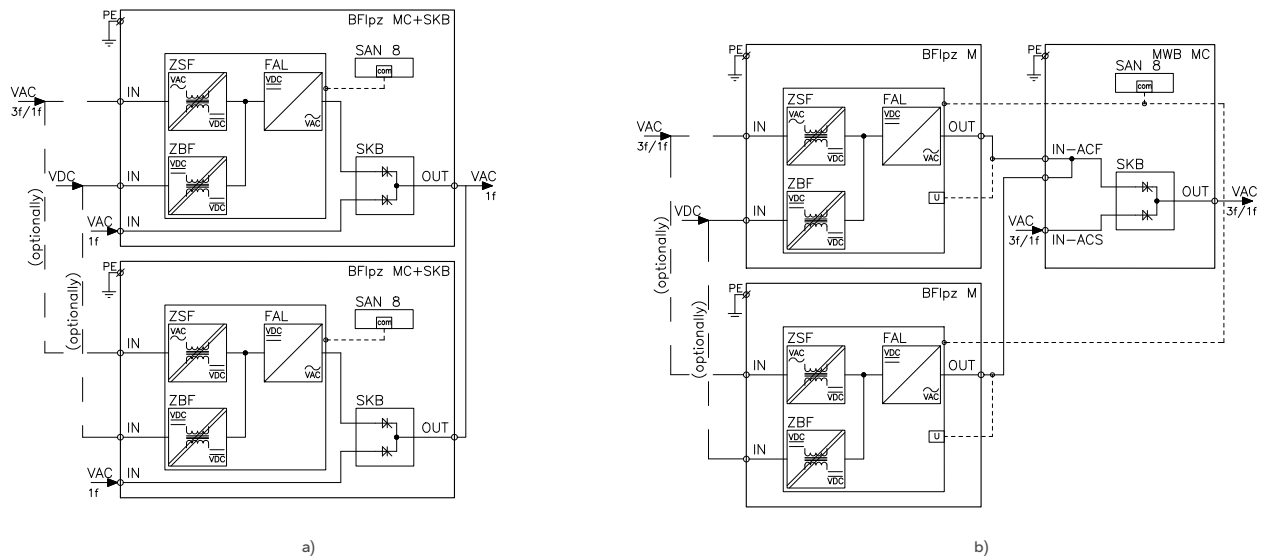
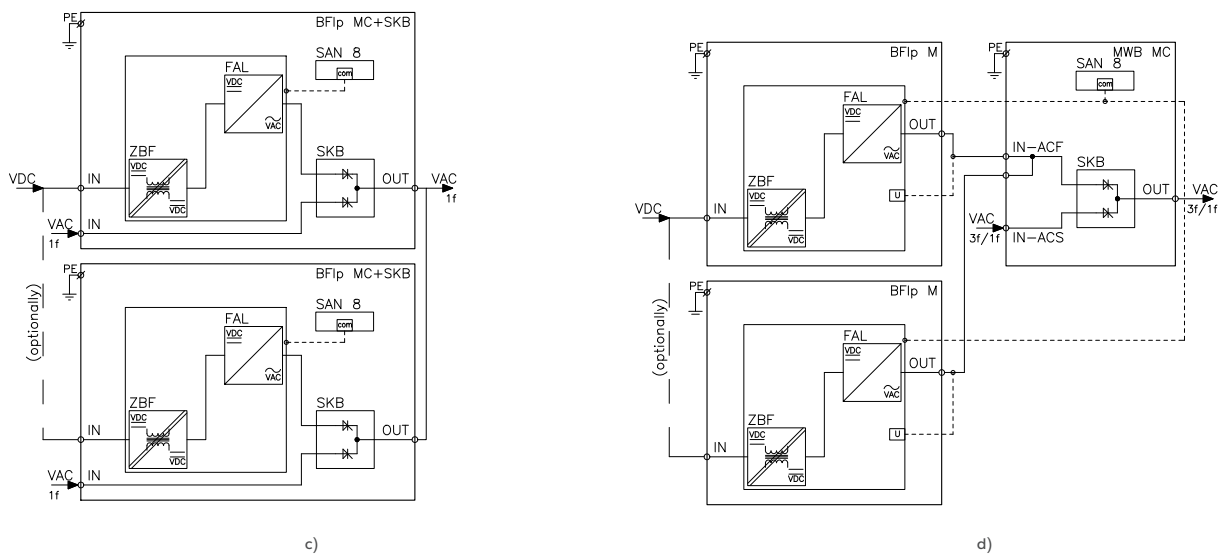

Fig. 49. Block diagram of the inverter module for parallel operation with the BFIPz power supply unit. Possible configurations:
Fig. 50. Block diagram of the BFIP type inverter module for parallel operation. Possible configurations:
1. Two modules – Fig. 49 a), Fig. 50 a):
2. Three modules – Fig. 49 b), Fig. 50b):
In configuration 1 – the BFlpz+SKB inverter module is supplied by the basic AC network voltage, DC voltage, as well as the AC reserve network voltage (the automatic bypass supply voltage – this is a standard solution used to increase the reliability of the system) (Fig. 49 a). On the other hand, the BFlpz+SKB inverter module is supplied from DC voltage and a reserve AC network voltage (Fig. 50 a).
In configuration 2 – the BFlpz inverter module is supplied by voltage of the basic AC network and DC voltage – Fig. 49 b), while the BFlp inverter module is supplied from DC voltage (Fig. 50 b). The MWB modules is supplied by voltage of the AC reserve network (the automatic bypass's supply voltage – this is a standard solution used to increase the system's reliability), as well as output voltages of inverters (Fig. 49 b, Fig. 50 b).